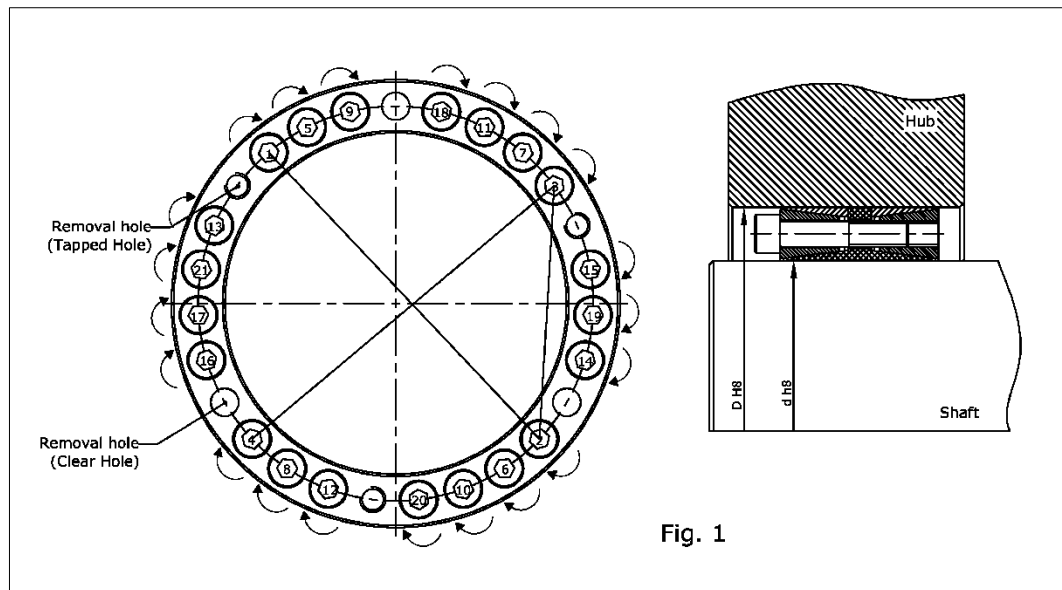

Fig. 1
1. Measure Inner bore depth of Hub (X), which must be greater of minimum 5 mm then Locking Assembly length with bolt (L1) as shown in above figure.
- Once the axial position of locking assembly is fixed then tighten all screws one by one in diametrically opposed sequence by using torque wrench. (As shown in Fig. 1)